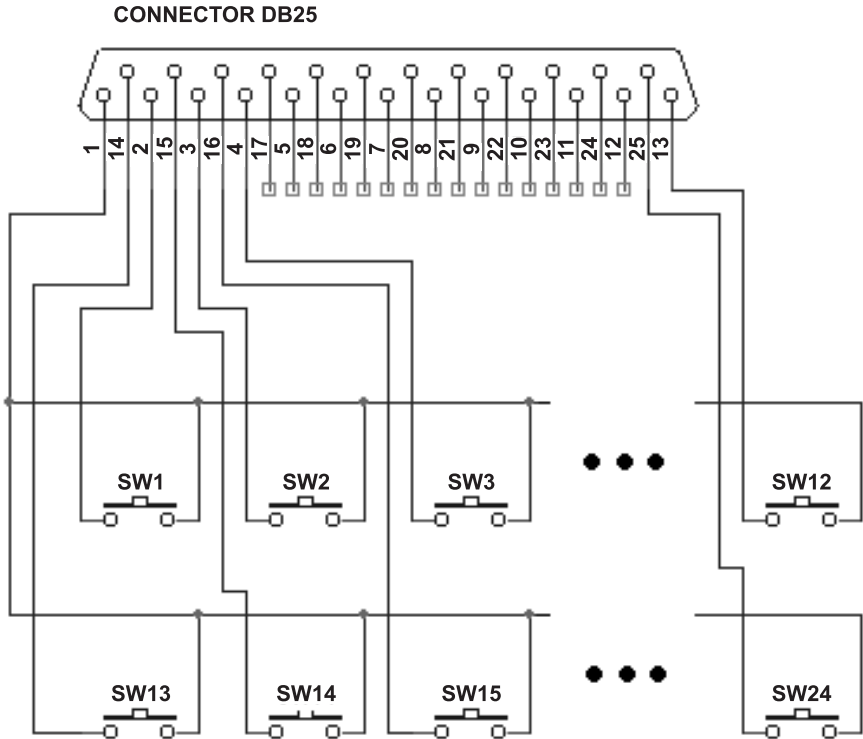

Figure 5: DB25 PINOUT
2. Connect the “*To Switch Assembly*” DB25F port on the **VS-1xl** to the “*To VS-1xl*” DB25F port on the **VS-1PxI** Control Panel, using a DB 25 flat connector cable (see Figure 5 for the DB25 PINOUT).
Figure 5 illustrates the DB25 “To Switch Assembly” connector PINOUT: